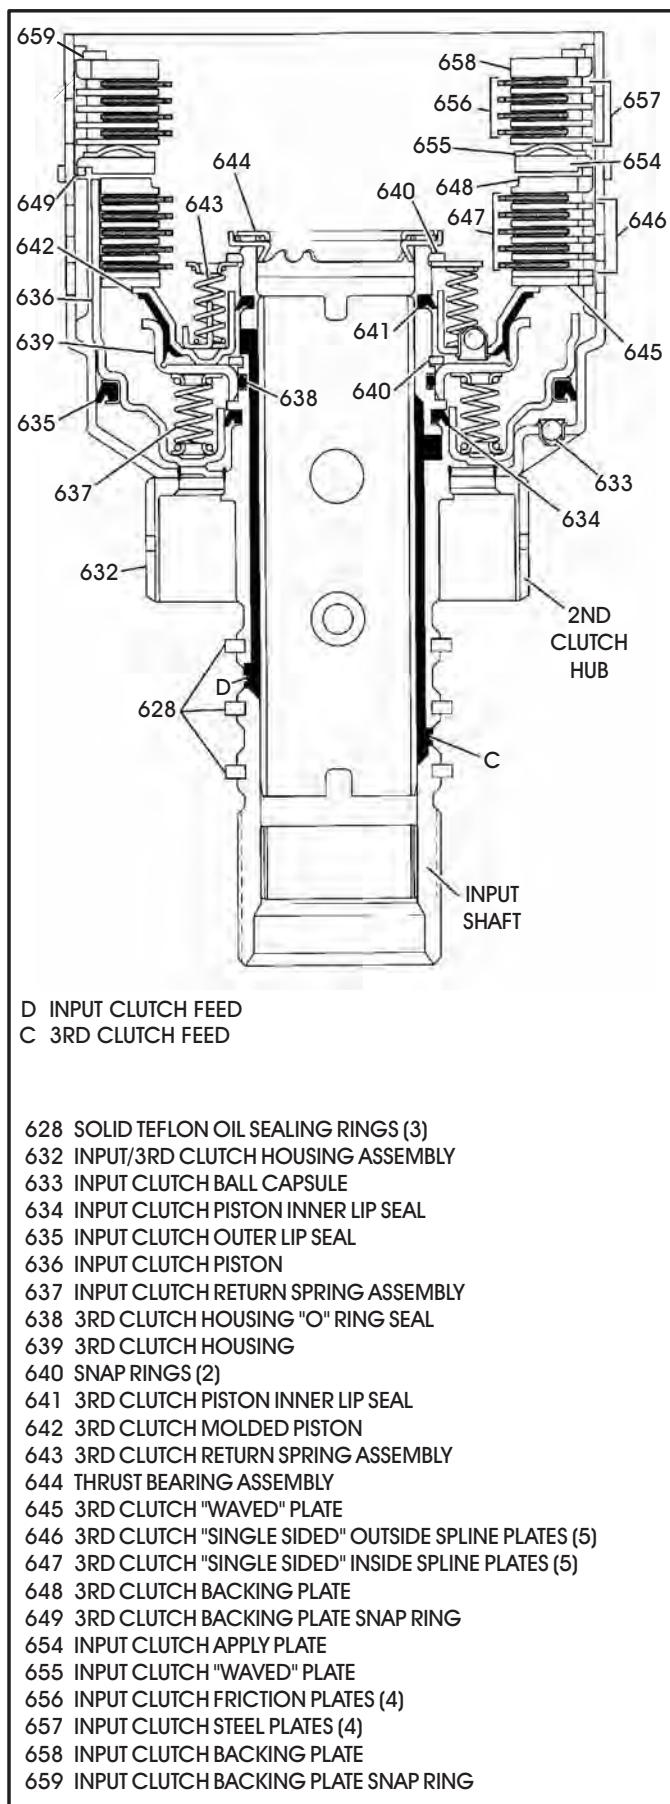

Figure 125
31. Using a rubber tipped air nozzle, apply air pressure regulated to maximum 30 psi to hole marked "D" as shown in Figure 125 and listen for 3rd clutch to apply.
32. Apply maximum 30 psi to hole marked "C", as shown in Figure 125 and listen for input clutch to apply.